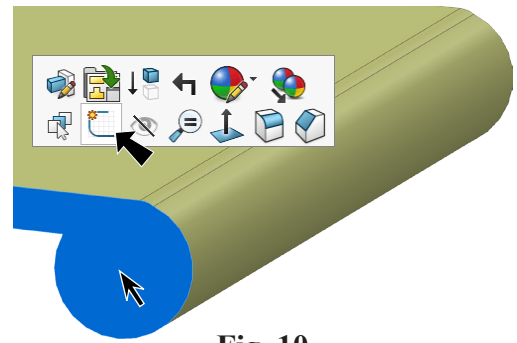

Fig. 10
Step 1. Click the **side face** and click **Sketch**  on the context toolbar, **Fig. 10**.